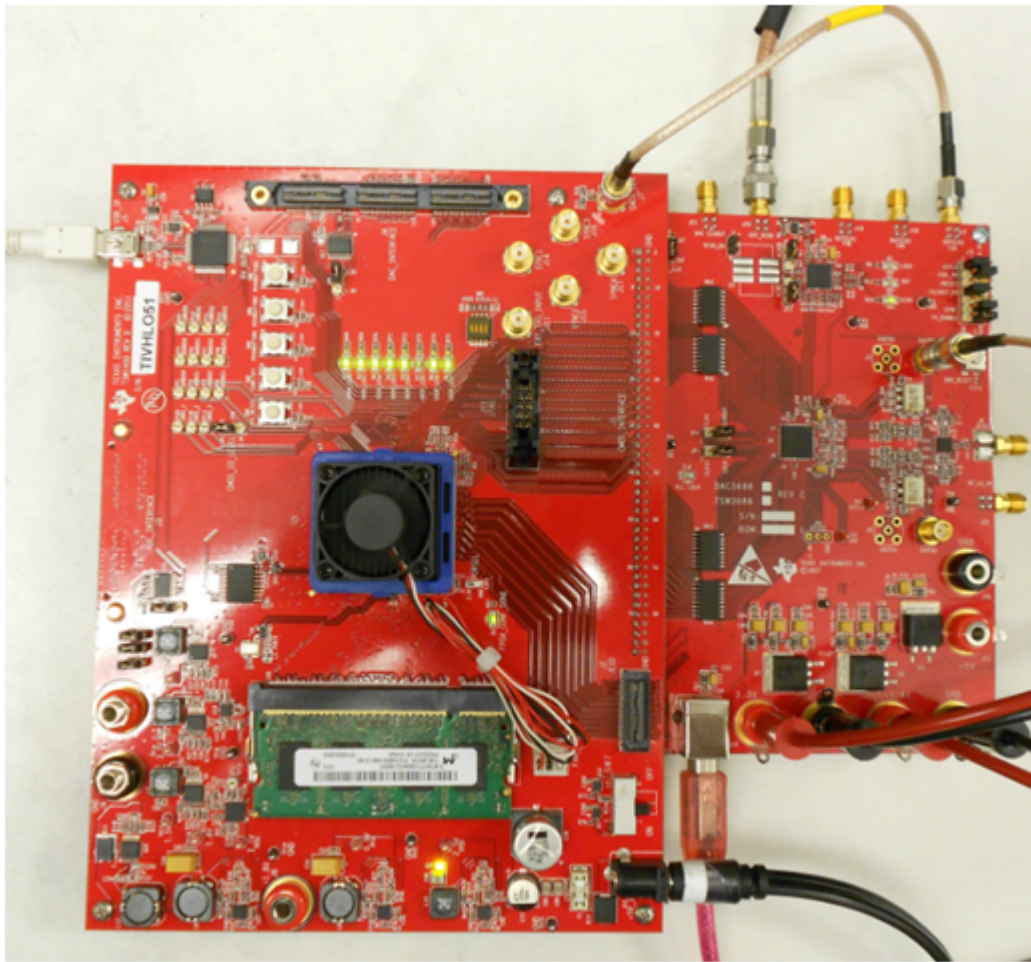

Figure 41. TSW1400EVM Interfacing to the CMOS Connectors of a DAC5688EVM
- The TSW1400EVM connected to the CMOS connectors of the DAC5688EVM is shown in Figure 41